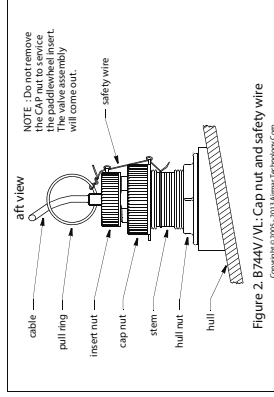

Figure 2. B744V/VL Cap nut and safety wire
Being sure the valve assembly is seated firmly within the housing, carefully screw the CAP nut in place (Figure 2). Hand-tighten only. Do not over tighten.
3. Attach the safety wire to prevent the insert from backing out in the unlikely event that the cap nut and/or insert nut fails or is screwed on incorrectly. Wrap one end of the safety wire tightly around the stem of the housing and twist it together with the long end (Figure 2). Keeping the wire taut throughout, lead the wire straight up and through one eye in the CAP nut. Thread the wire through the eye a second time. Lead the wire in the counterclockwise direction and thread it through the eye in the INSERT nut. Thread the wire through that eye a second time. Loop the wire through the pulling ring and twist the wire securely to itself.
2. Remove the paddlewheel insert from the housing by removing the safety wire from the pull ring and the INSERT nut (Figure 2). Unscrew the INSERT nut. Do not remove the CAP nut, as the valve assembly will come out.
5. Reattach the safety wire (Figure 2).
2. Remove the safety wire and unscrew the CAP nut (Figure 2). With the blanking plug ready in one hand, remove the paddlewheel insert valve assembly in the other hand by grasping the pull ring. The valve assembly is now ready to be inserted into the boat. Temporarily secure it with the safety wire. Do not leave the boat in the water unattended. This is not a watertight or secure seal.
8. Reattach the safety wire (Figure 2).